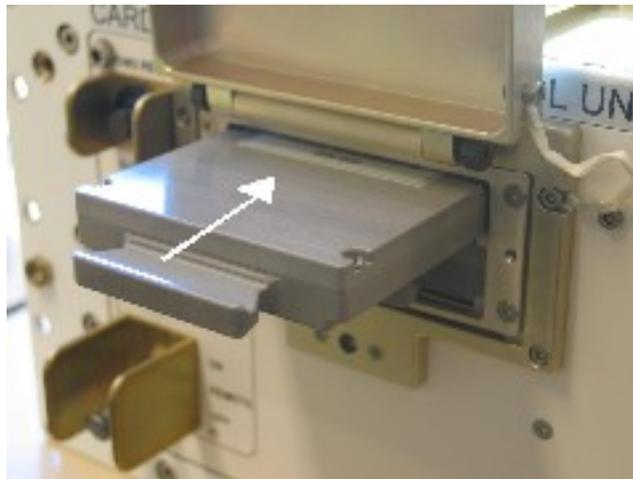

Figure 4. CDL Hard Disk 2
- 2.3 Insert CDL Hard Disk 2 into the upper slot and push until it gets locked (Refer to Figure 4)